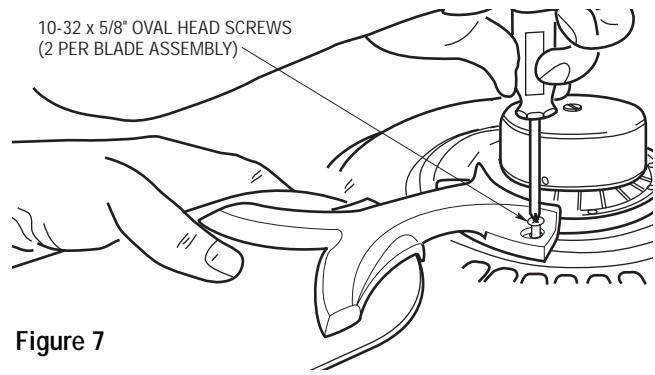

Figure 7
- 13. Attach one blade assembly to the motor hub using two 10-32 x 5/8" oval head screws (supplied) (Figure 7). Do not tighten completely at this time. Install remaining blade assemblies in the same way. Gently snug all flange screws to the motor hub, working around the hub in a clockwise sequence. Next, securely tighten all flange screws, again working in a clockwise sequence. Failure to follow this procedure could result in fan wobble. This completes the blade installation.